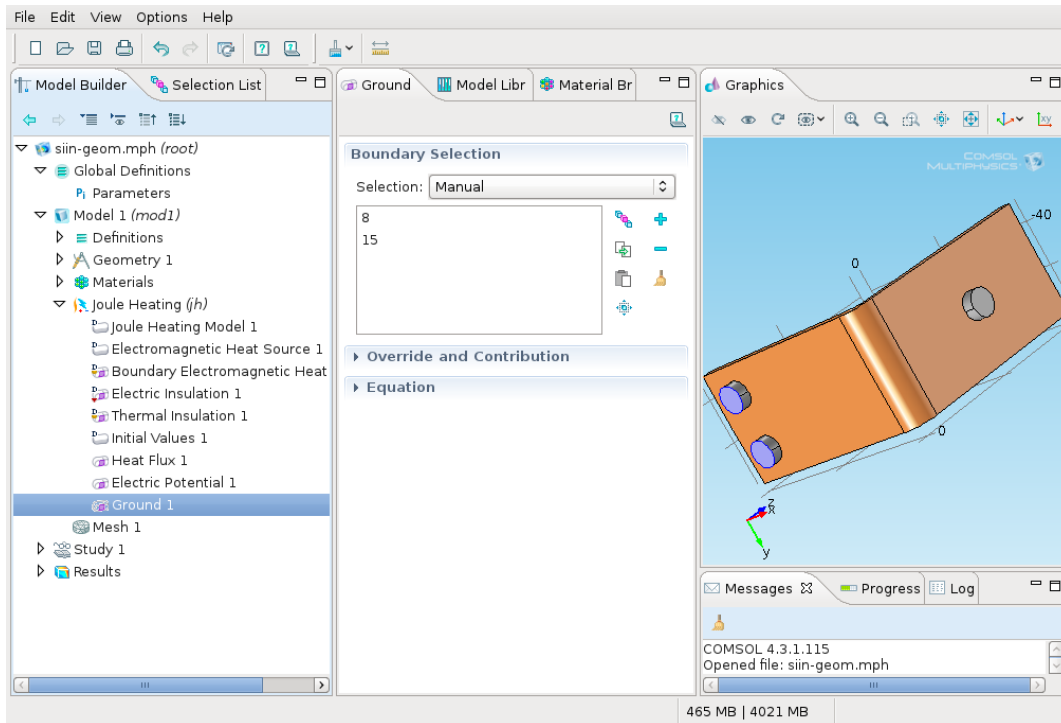

Figure 34: Boundary conditions: *Ground*.
- *Model Builder* → *Joule Heating: right button* → *second section for boundary conditions* → *Electric Currents* → *Ground* (Fig. 34);